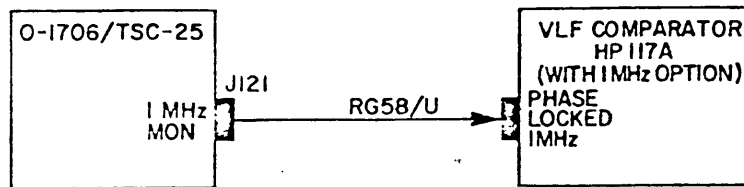

Figure 5-16. 1 MHz frequency stability test setup.
a. General. In general, after repair and/or replacement of parts has been accomplished, the Exciter should be subjected to a minimum performance check. Such a check is outlined in Section II - Preparation for Use and Installation - paragraph 2-5. This type of check will verify Exciter operation at a minimum performance level. However, if components have been replaced on any of the printed circuit boards, the alignment and adjustment procedures outlined in this section must be completed prior to carrying out the minimum performance check outlined in paragraph 2-5. The board alignment and adjustment procedures are presented in paragraphs 5-5 a. (1) through 5-5 a. (14); a final overall alignment procedure is presented in paragraphs 5-5 b. (1) through 5-5 b. (5).
b. 1 MHz Standard Frequency Stability Test. (See fig. 5-16.) Check the frequency stability of the internal 1 MHz standard oscillator as follows:
(1) Check that STANDBY-ON switch on Exciter is in STANDBY position.
(2) Connect 1 MHz MON jack J121 to input of HP 117A VLF comparator.
(3) Connect Exciter POWER connector to 115-volt, 60 Hz source, and set STANDBY-ON switch to ON position. Energize test equipment and allow a 30-minute warmup period to elapse.
(4) Set METER FUNCTION switch on HP 117A to PHASE COMPARISON position and observe PHASE COMPARISON RECORDER chart readout and front panel meter over a period of 1 hour. Frequency stability of Exciter internal 1 MHz standard should be at least 1 part in 10^8 /day.
(5) Deenergize setup and disconnect equipment.